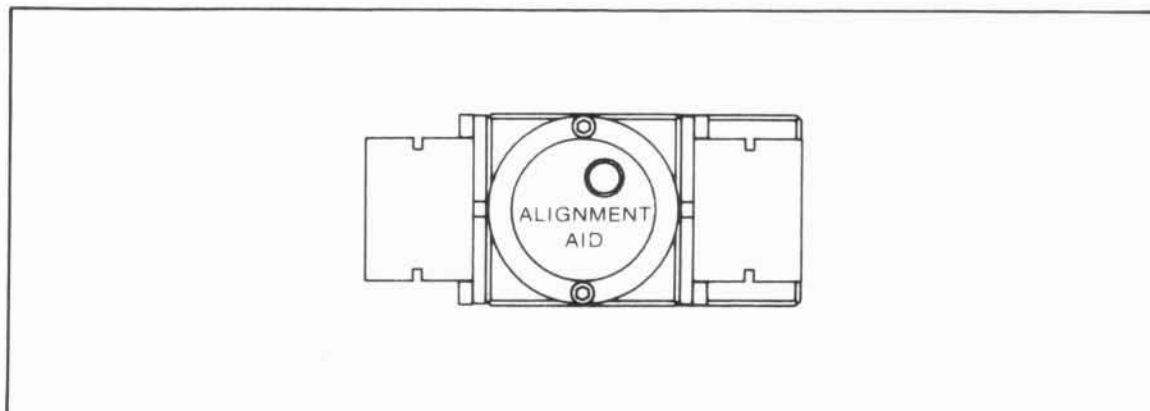

Figure 6-38. HP 10715A with Alignment Aid Attached Over Measurement Beam
- g. Place the alignment aid over the output aperture (plane mirror converter) of the Differential Interferometer such that the beam going to the measurement mirror (measurement beam) passes through the alignment target. (See Figure 6-38.)